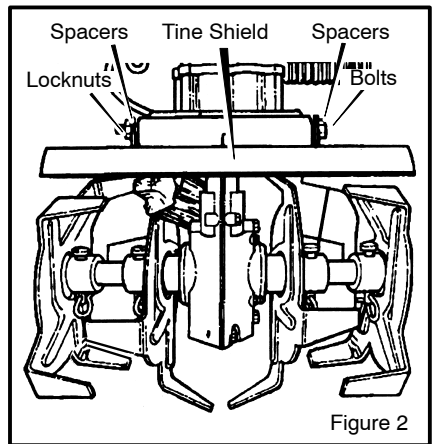

Figure 2
- 2. Remove the **locknuts**, **spacers**, and **screws** from the **tine shield** (see Figure 2).